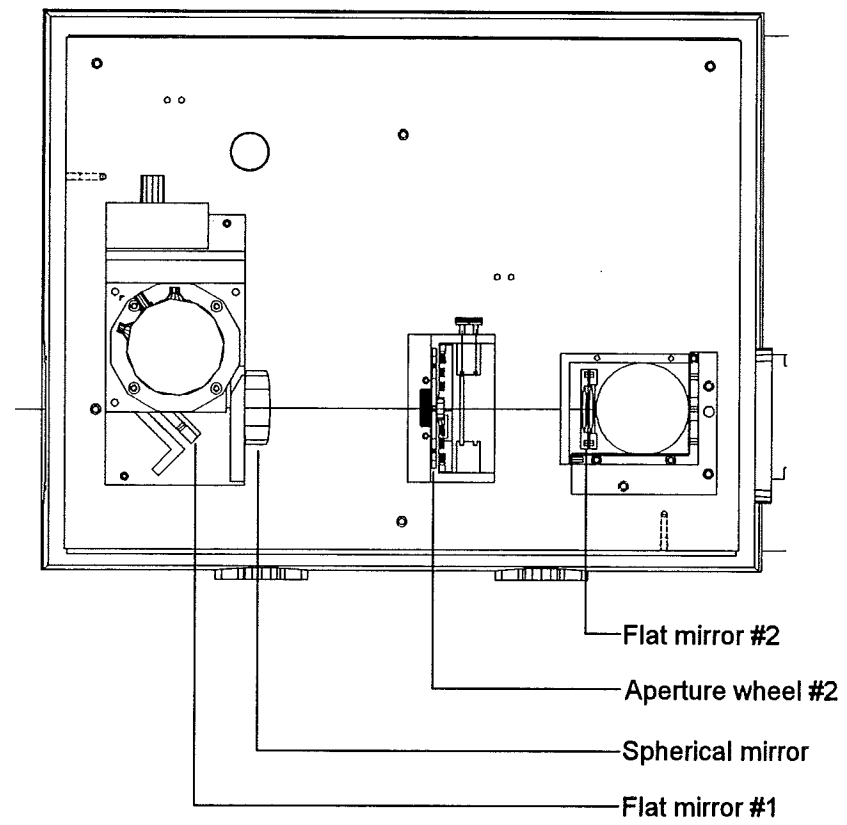
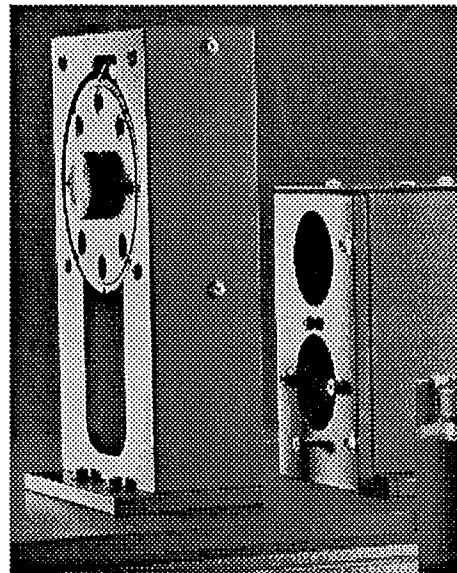

Figure 3. Top view
Figure 11. Close-up of top plate assembly.
7. **Adjust flat mirror #1 so the image is centered on flat mirror #2 (on the top plate assembly—see Figure 3 and Figure 11).**